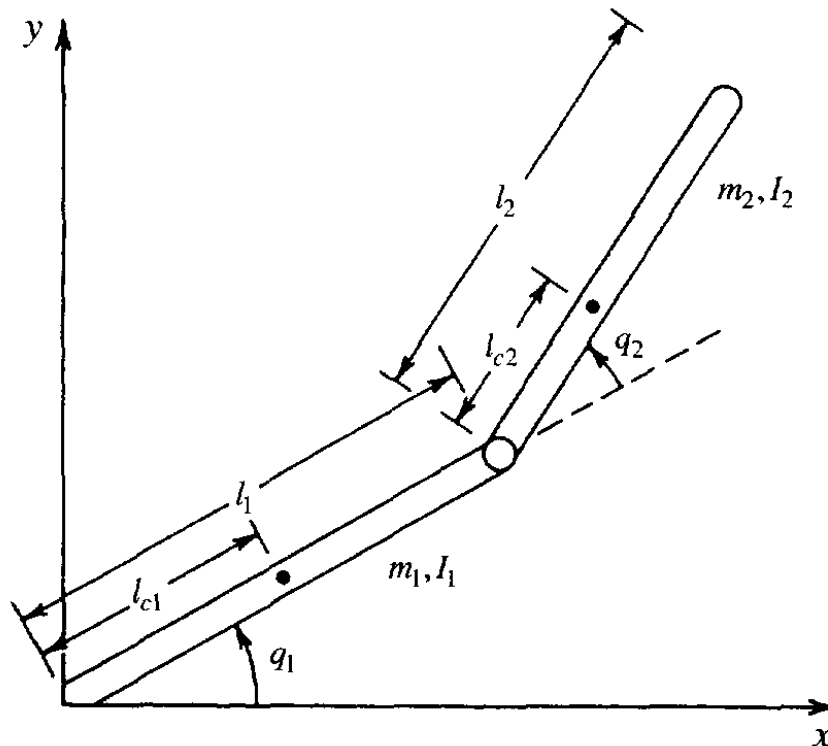

Figure 1: The acrobot (image taken from [2]; torque input τ at elbow not shown).
3.1 Non-collocated Partial Feedback Linearization (PFL) control for the acrobot. In class, we looked at MATLAB simulation results for *collocated* PFL control of the acrobot (Figure 1), as outlined in Spong [3]. Download two m-files from the course homework website: `acrobot_collocated_linearization.m`, which solves the equations of motion (EOMs) for the system *with collocated PFL control*, and `acrobot_animate.m`, which will allow you to animate the motion. You can then run a simulation using the following MATLAB commands: